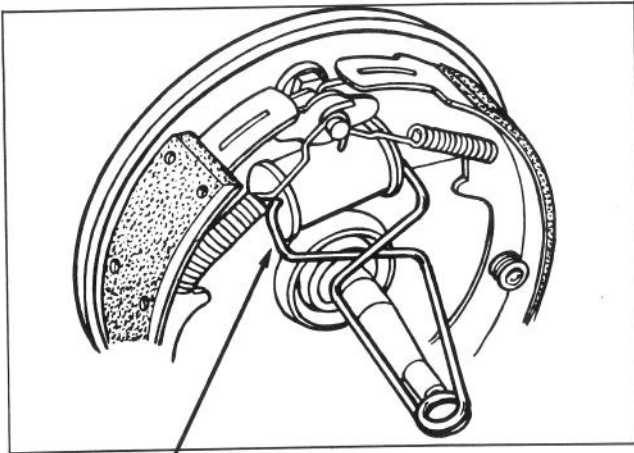

Figure 30
3. Install wheel cylinder clamp (Figure 30) to hold wheel cylinder pistons in place.